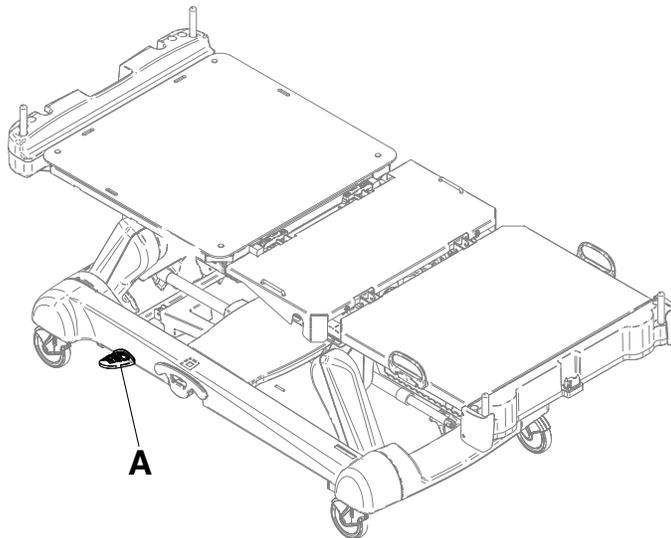

Figure 9: CPR release pedal
Two instant CPR release pedals are located at the head end section on both the left and right sides of the litter (A) (Figure 9 on page 23).